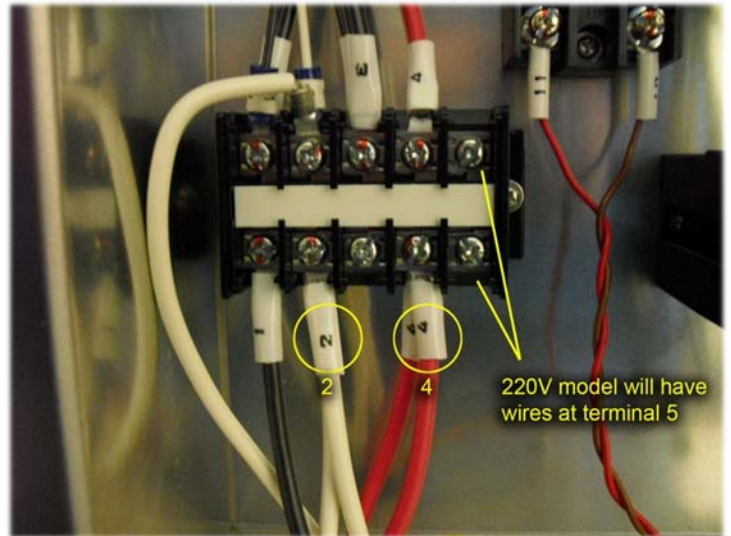

Figure 1
3. Locate the heater wires (see Figure 1).